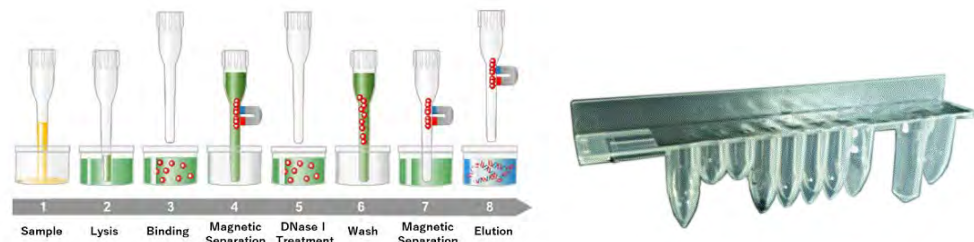

Figure 1-7: RNA extraction principle and ELITE InGenius SP RNA extraction cassette
- The reagent set has been optimized for the isolation of nucleic acids from 0.2 mL samples. (Figure 1-7: ELITE InGenius – SP RNA Extraction cassette and extraction principle).